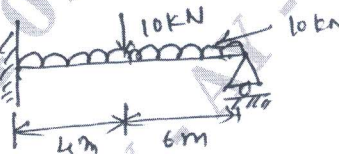

Fig. Q9 (b)
b. For the beam shown in Fig. Q9 (b), determine the load vector due to the load acting on the beam. (10 Marks)